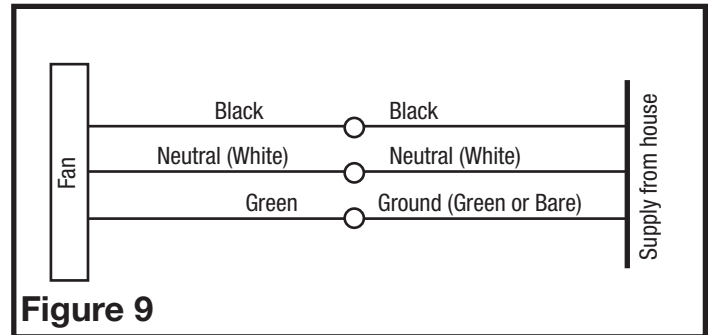

Figure 9
3. For two speed fans wired for continuous ventilation, connect the White wire of the fan to the White (Neutral) wire from the power source. Connect the ground wire from the house to the green wire from the fan housing. Connect the Black wire of the fan to the Black wire (Hot) from the power source. The fan will operate on low speed continuously and boost to high speed when motion is detected. A manual override switch (not included) can be used to provide a manual fan Off function. (**Figure 9**).